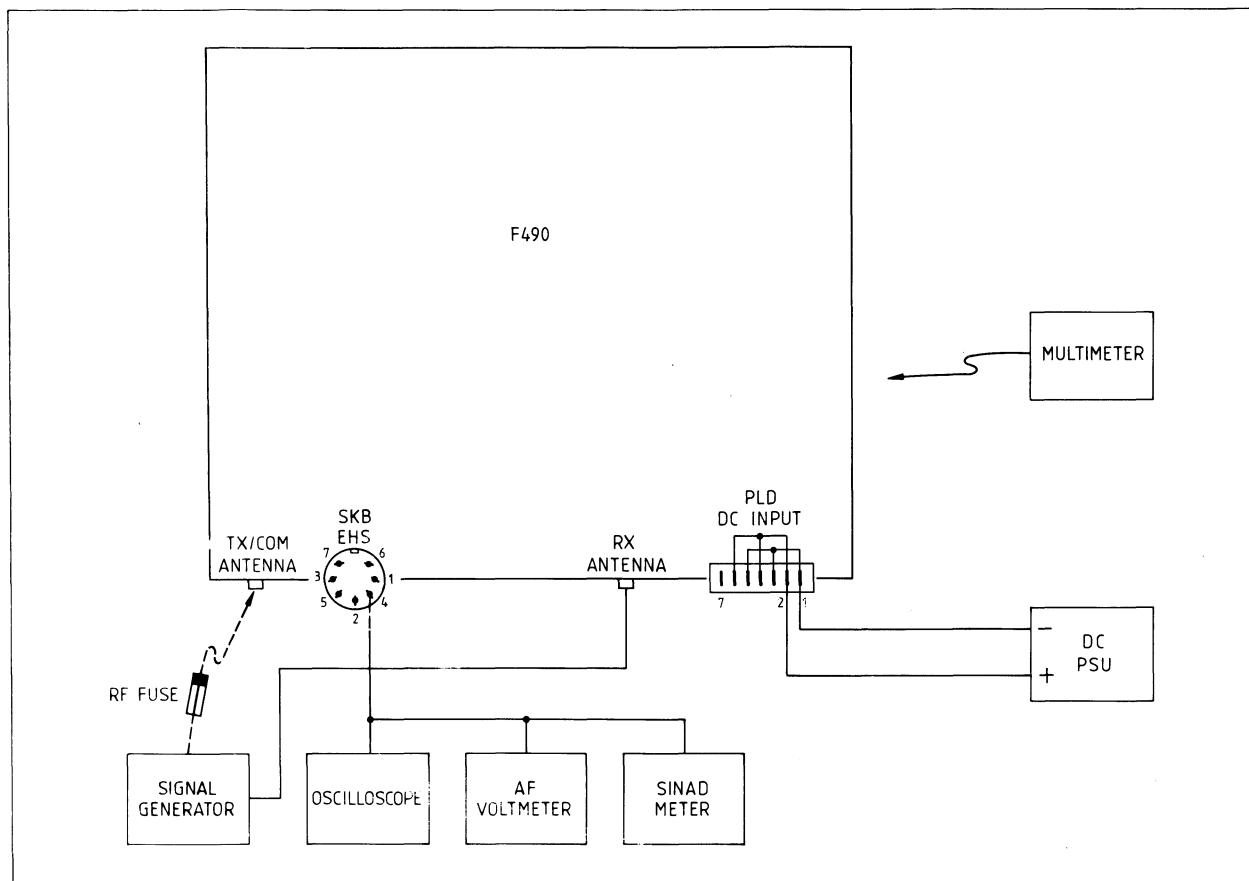

Fig 4.3 Receiver Test Circuit
With reference to Fig 4.3 Connect the PSU to PLD (DC INPUT) on the control panel.
- Connect test equipment as shown in Fig. 4.3